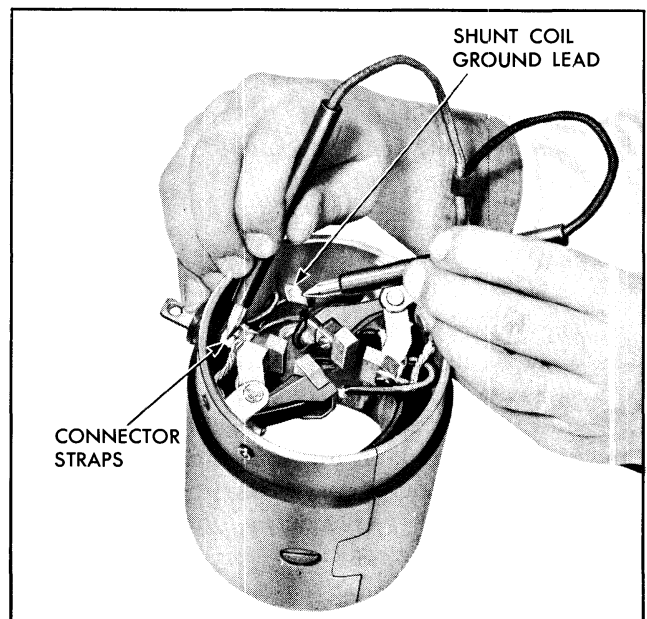

Fig. 11-10 Testing Shunt Coil for Open
3. Using a 110-volt test lamp, place one lead on each end of the shunt coil or coils (Fig. 11-10). Disconnect the shunt coil grounds before this check is made. If the lamp does not light, the shunt coil is open and will require replacement.